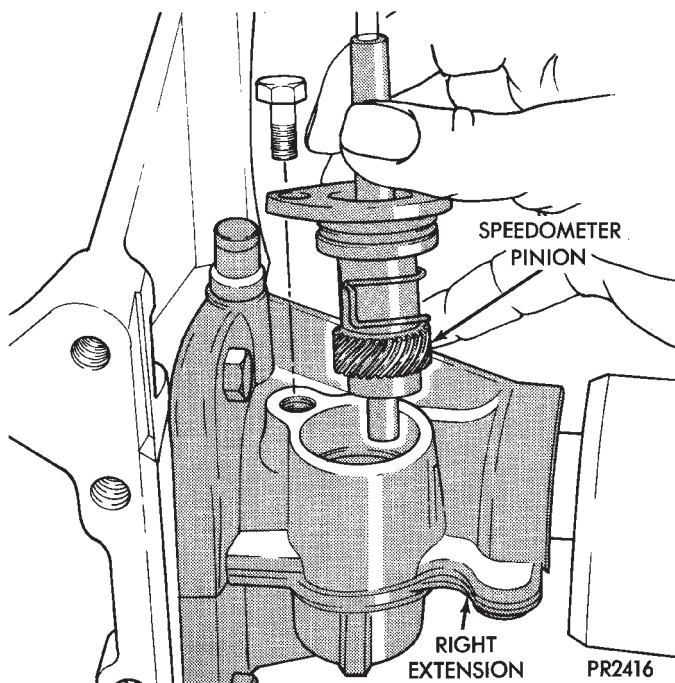

Fig. 6 Remove Speedometer Pinion Clamp (For Right Driveshaft).
- (1) For removal of right driveshaft, the speedometer pinion must be removed BEFORE shaft removal (Fig. 6).